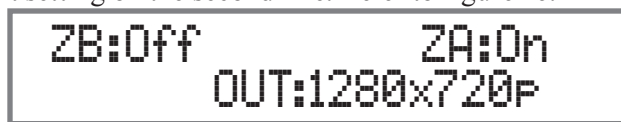

Figure 16
1. Press the Front Panel RESOLUTION Push-button once. The Front Panel Information Display will indicate the current setting on the second line. Refer to figure 16.